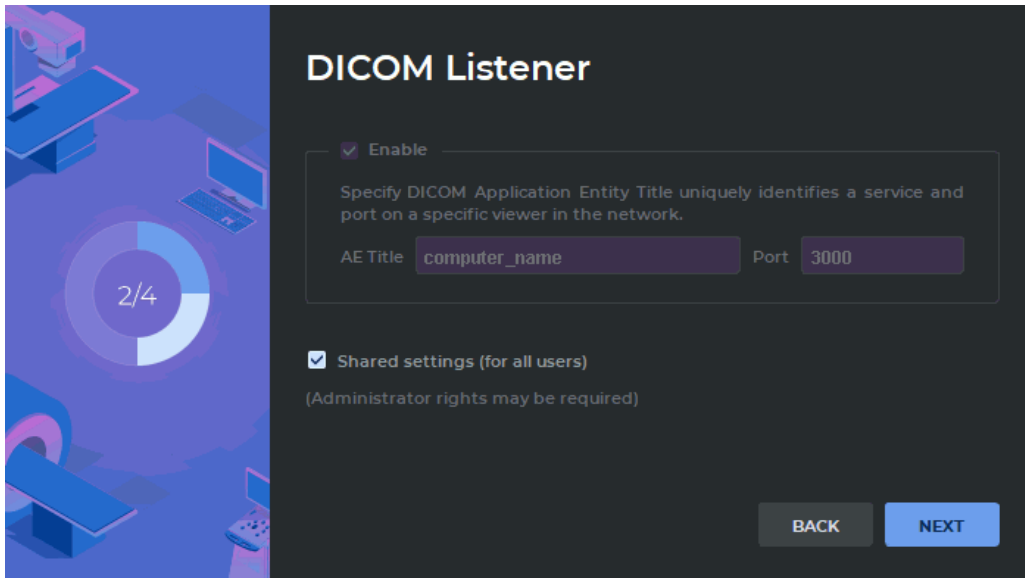

Figure 20: DICOM Service
2. On the page **DICOM Listener** (Fig. 20) set the parameters of the DICOM listener service.
This functionality is described in Section 12.1.1 and can be configured later. If this functionality has already been configured in this computer, then the window shown in Fig. 20 will contain the values specified earlier. Parameters specified earlier for a specific user will not be changed if you install the program for another user or for all users.